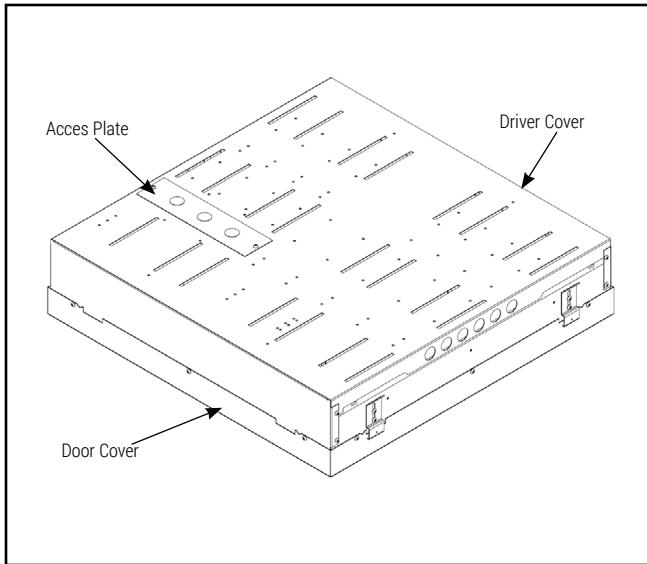

Figure 1.
1. Turn off the power at the main fuse/breaker box. (Figure 1)